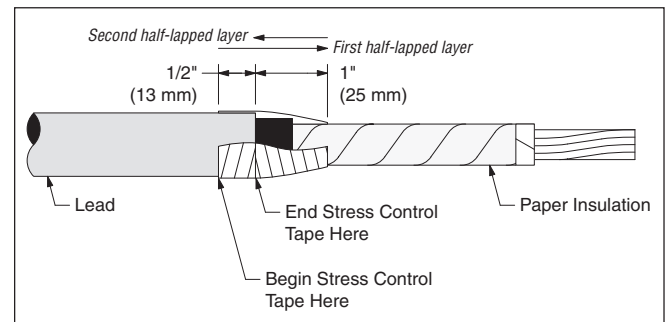

Figure 3
- 3.1 Beginning 1/2" (13 mm) on the lead sheath, build a smooth taper using the Scotch® Electrical Stress Control Tape 2220. Stretch to apply one half-lapped layer onto paper insulation to a distance of 1" (25 mm) from the lead edge, then back to the lead step as shown (*Figure 3*).